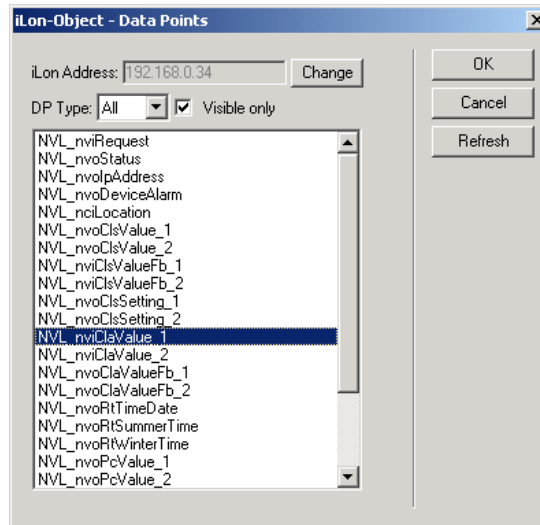

Figure 13.8 Data Points Dialog
- Make sure that the **Switchable** check box is selected, and then click **Select DP**. This opens the Data Points dialog shown in Figure 13.8. If the iLON Information dialog opens first, then enter the iLON 100 server's IP address and click **OK**.